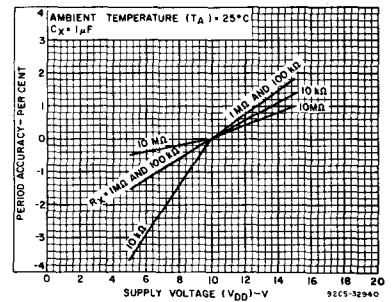

Fig. 11—Typical astable oscillator or Q, Q̄ period accuracy vs. supply voltage.
**B. Variations Due to  $V_{DD}$  and Temperature Changes** — In addition to variations from unit to unit, the astable period varies with  $V_{DD}$  and temperature. Typical variations are presented in graphical form in Figs. 11 to 18 with 10 V as reference for voltage variations curves and 25°C as reference for temperature variations curves.